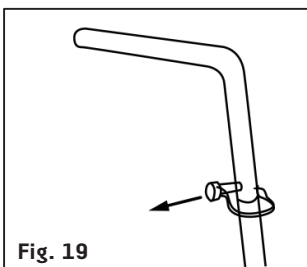

Fig. 19
2. Remove the frame pins from the frame supports (Fig. 19).